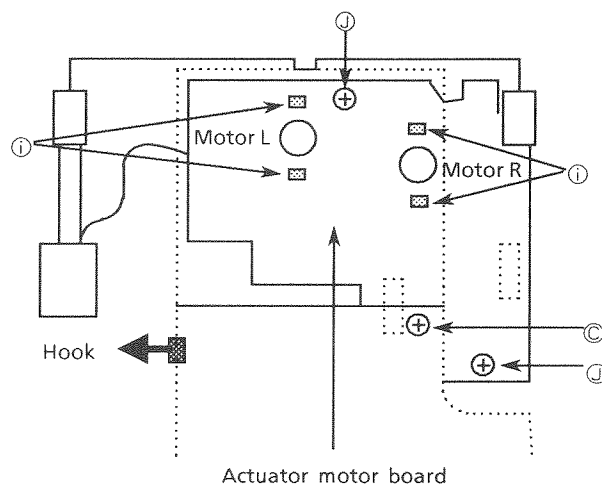

Fig. 39
1. Unsolder 4 soldered point ① for both motors. (See Fig. 39.)
2. Remove a screw ② securing the CD servo board. (See Fig. 39.)
4. Remove 2 screws ③ securing the actuator motor board. (See Fig. 39.)